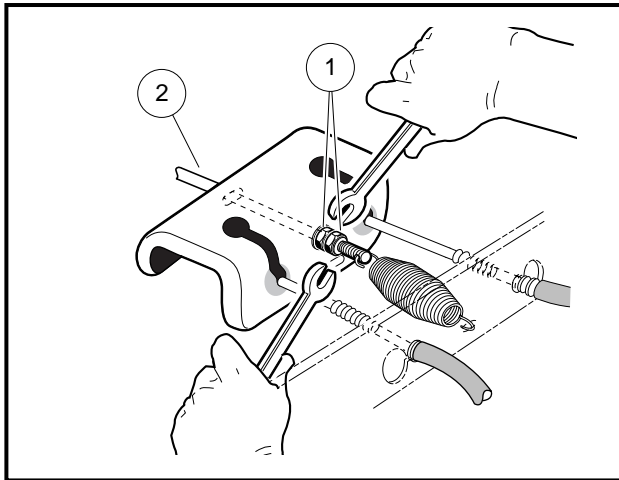

Figure 6-2 Loosen Equalizer Nut
2. Release park brake if latched and loosen equalizer retaining nuts (1) on equalizer rod (2) to slightly loosen brake cable (**Figure 6-2, Page 6-3**).